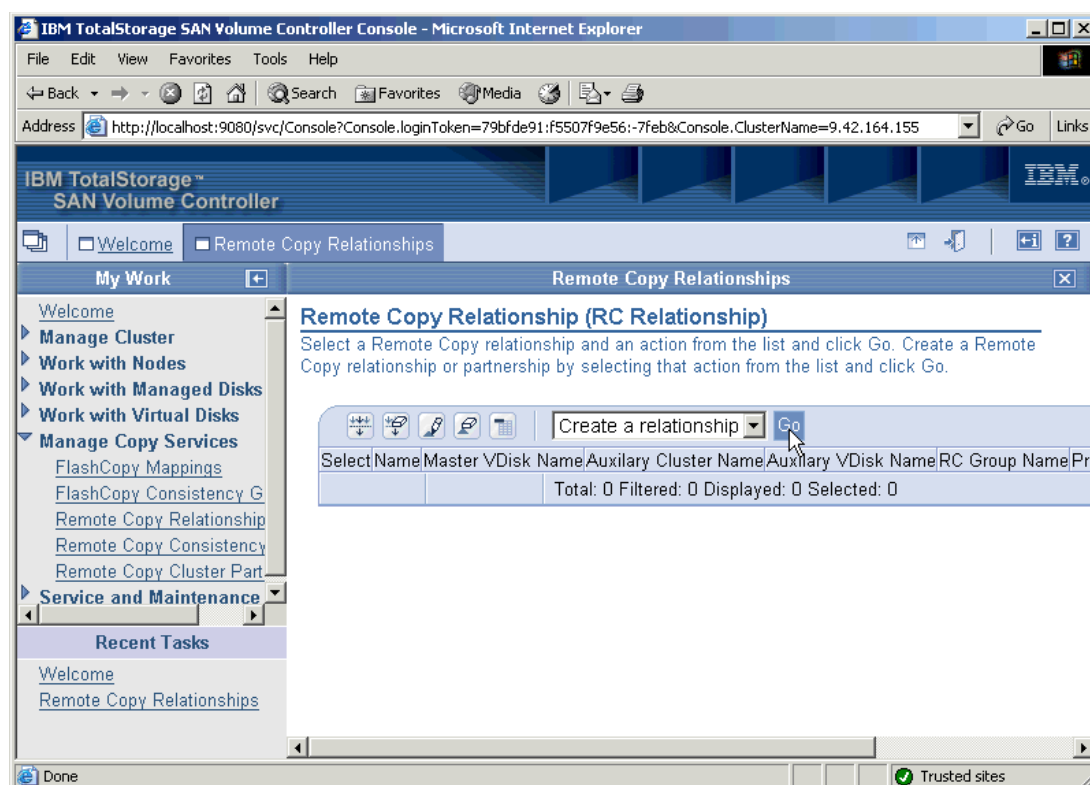

Figure 11-17 Remote Copy Relationship
1. As shown in Figure 11-17, under My Work, select **Manage Copy Services** and select **Remote Copy Relationships**.